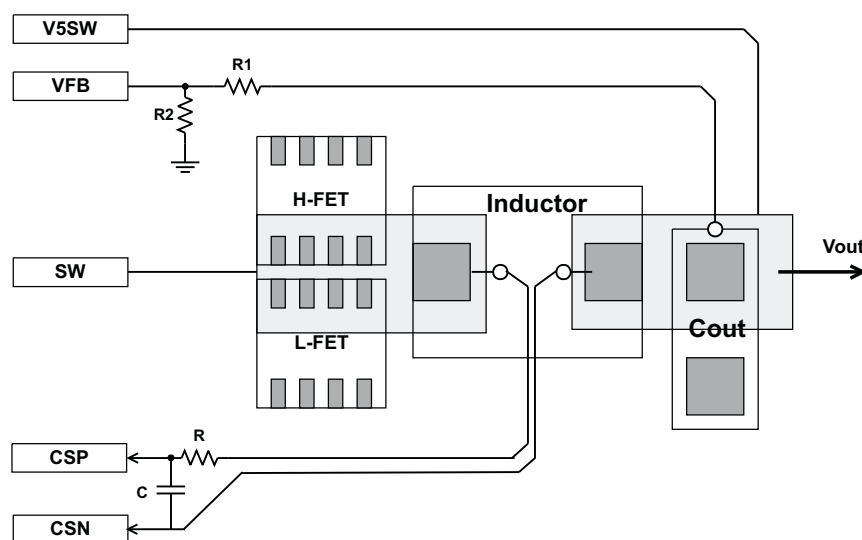

Figure 47. Sensing Trace Routings
- Use separate traces for; see Figure 47